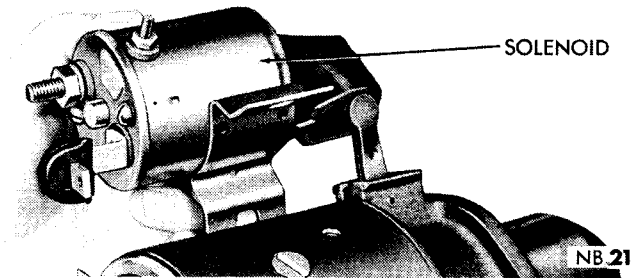

Fig. 4—Removing Starter Solenoid
- (6) Remove solenoid attaching screws and remove solenoid and boot assembly (Fig. 4).
(6) With clutch drive, shifter fork, and pinion housing assembled to the armature, slide armature into field frame until pinion housing indexes with slot in field frame.
(7) Install solenoid and boot assembly (Fig. 4). Tighten bolts to 60-70 inch pounds.